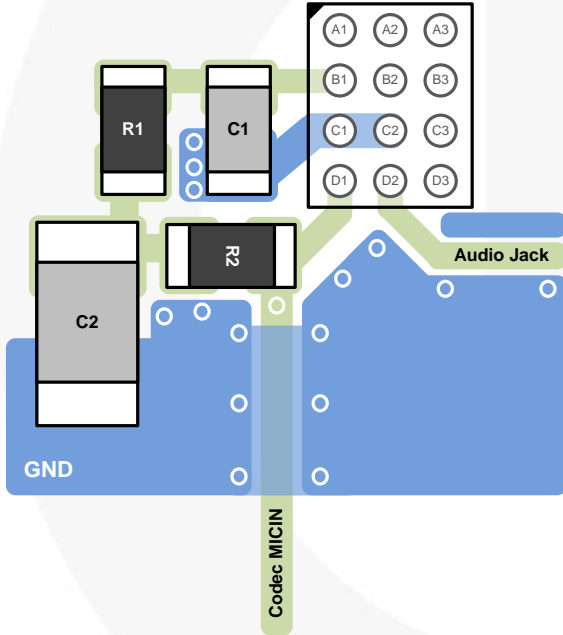

**Figure 7. MIC Bias and MIC Switch Circuit**
- 2.2 kΩ can generally be used in applications to bias the accessory microphone. Two separate resistors totaling 2.2 kΩ with a large capacitor between them can improve noise rejection performance, as shown in Figure 7.